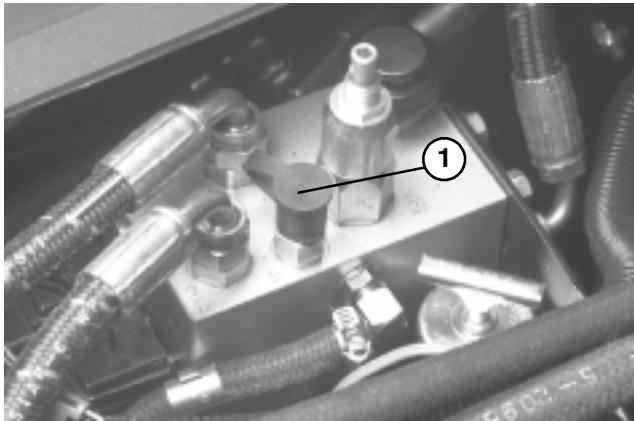

Figure 31
HYDRAULIC SYSTEM TEST PORT (Fig. 31)
1. Test Port #1 (Fig. 31) is used to adjust pressure in counterbalance circuit.